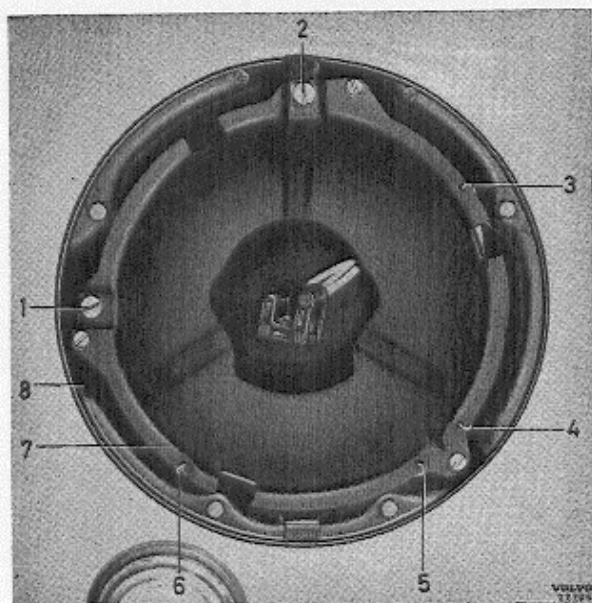

Fig. 14. Headlight bowl.
4. Unscrew the screws (1 and 2, Fig. 14) for headlight adjustment 8—10 turns. Unhook the springs (3—6) from the bowl (7). Remove the bowl from the protective casing (8).
2. Remove the spring which holds the bulb holder to the headlight insert (Fig. 14). Separate the insert and the bulb holder.